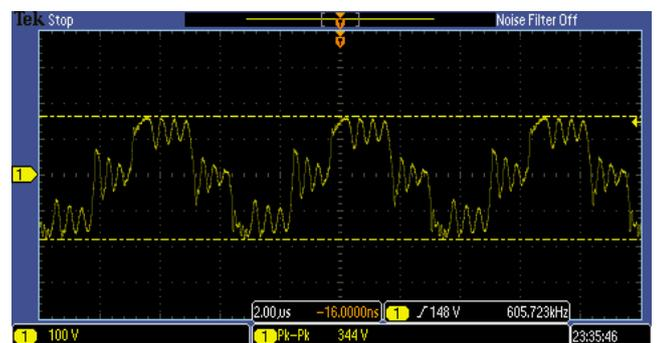

Figure 2. Transformer voltage with oscillations
- **Oscillations:** The Llk resonates with the secondary side diode capacitance and its own transformer capacitance, this resonance can breakdown the diodes and provoke spikes if it is not limited. This problem can be solved modifying the resonant or including a snubber. The Figure 2 has been obtained using a non dissipative snubber for limiting the peaks.